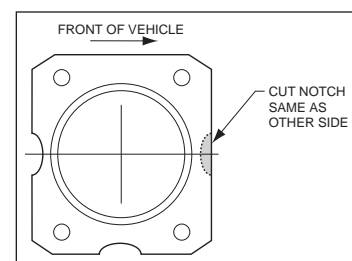

Figure 4. Flange Modifications
- Minor modifications to the axle flange may be required, see text and figure 4 on page 4.
Axle housing flange may need to be modified by grinding. A relief, the same dimension as the OEM relief at the rear of the housing must be present at the front (of vehicle) side of the housing flange, see Figure 4. This is necessary in order to reinstall the OE wheel speed sensor onto the new backing plate assembly.